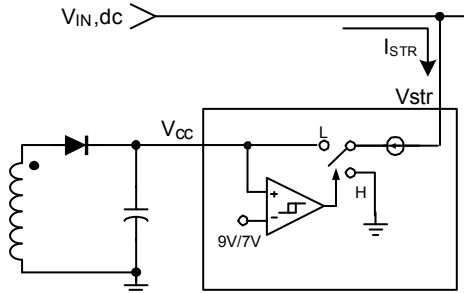

Figure 14. Internal Start-up Circuit
1. Start-up: At start-up, the internal high-voltage current source supplies the internal bias and charges the external V_{CC} capacitor, as shown in Figure 14. In the case of the FSQ211, when V_{CC} reaches 9V, the device starts switching and the internal high-voltage current source stops charging the capacitor. The device is in normal operation provided V_{CC} does not drop below 7V. After start-up, the bias is supplied from the auxiliary transformer winding.